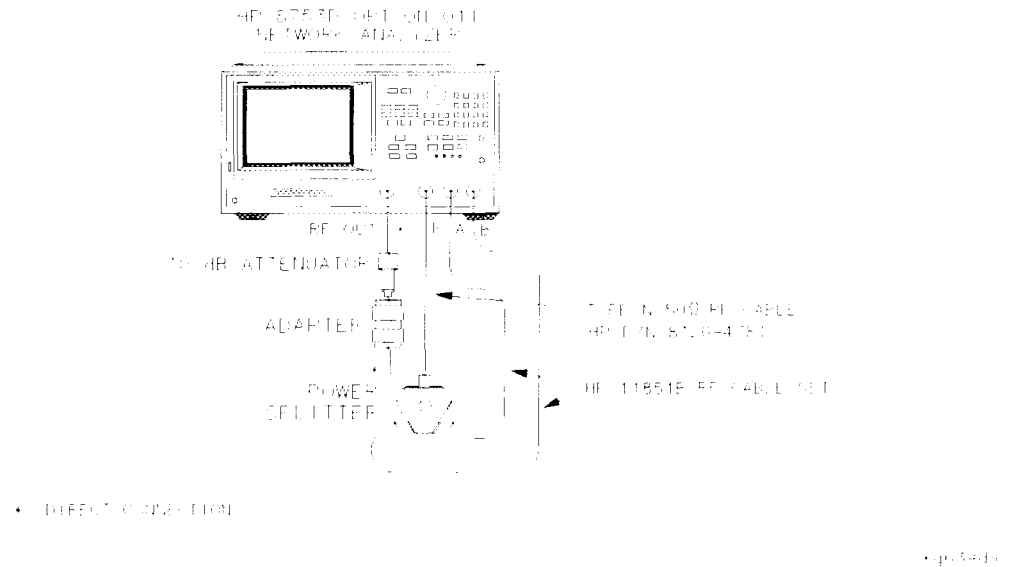

Figure 6-12. Phase Frequency Response Test Setup
- 1 Connect the equipment as shown in Figure 6-12.